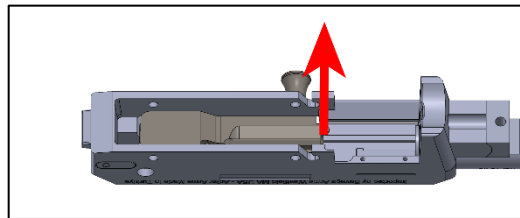

Figure 27
- Carefully lift front of the bolt upwards to disengage it from the cocking handle assembly – Figure 27.